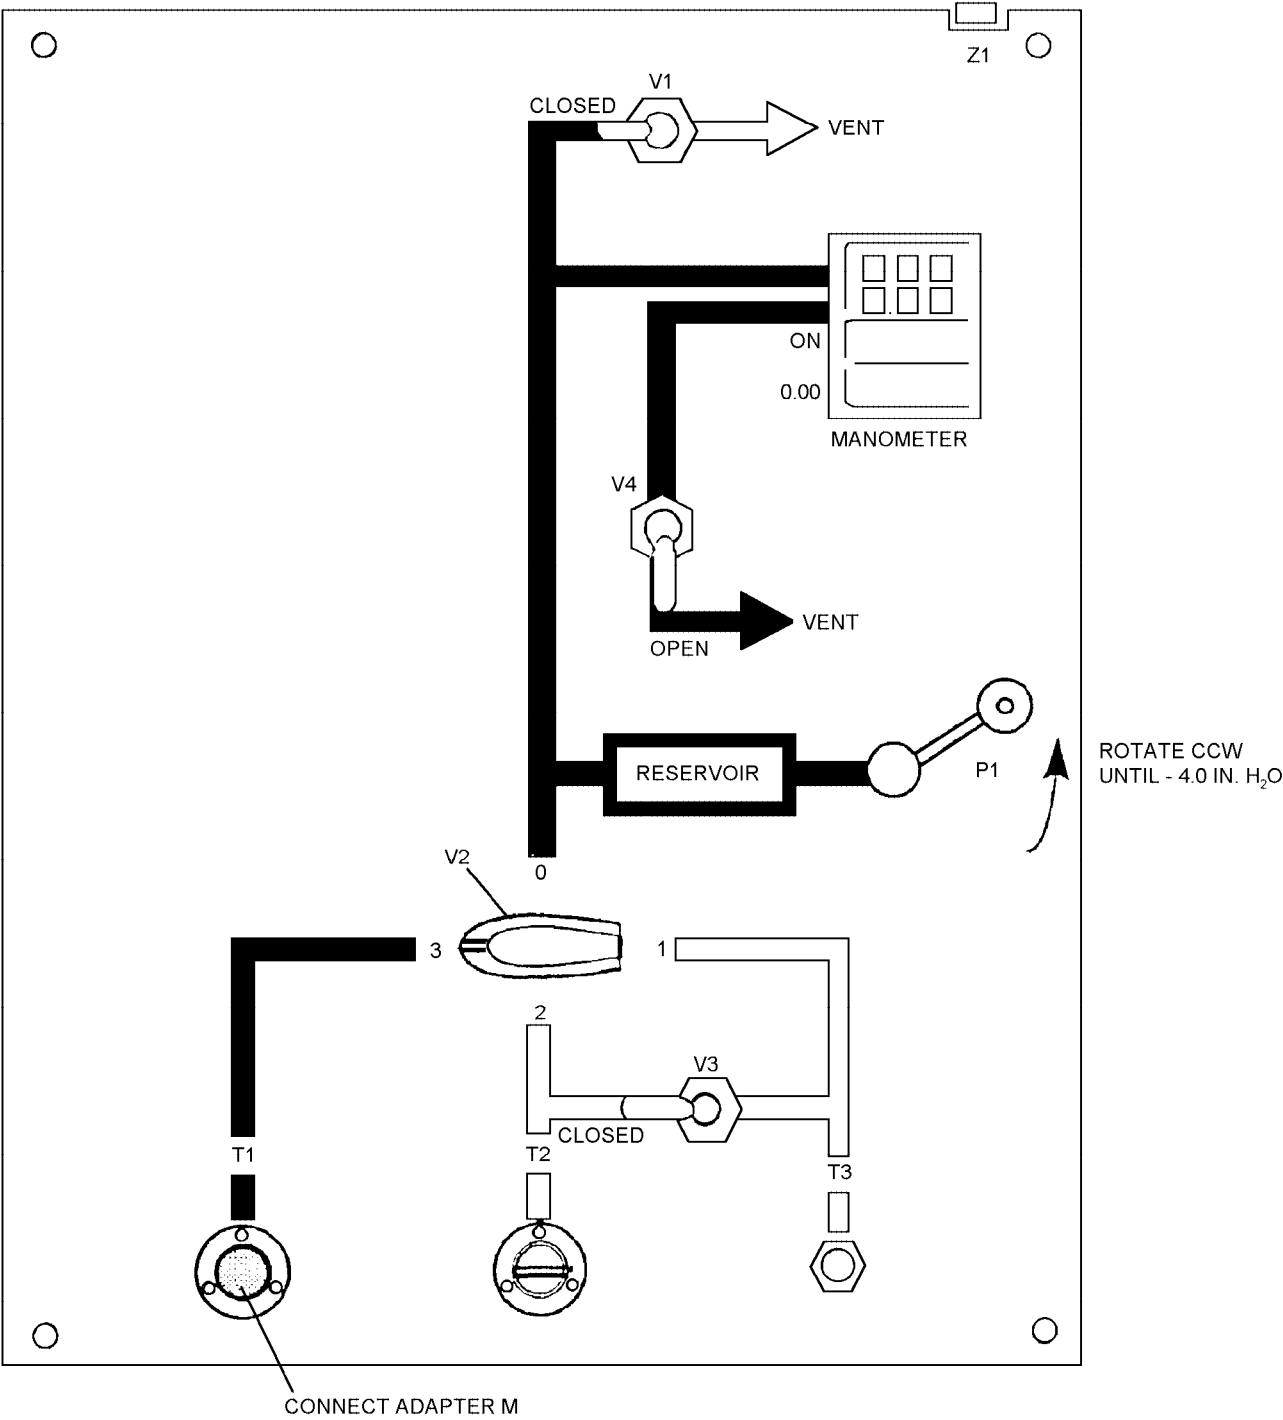

Figure 4-92. Inhalation and Hood Inlet Valves - Reverse Leakage Test
8. Connect free end of adapter M to T1 (figure 4-92).